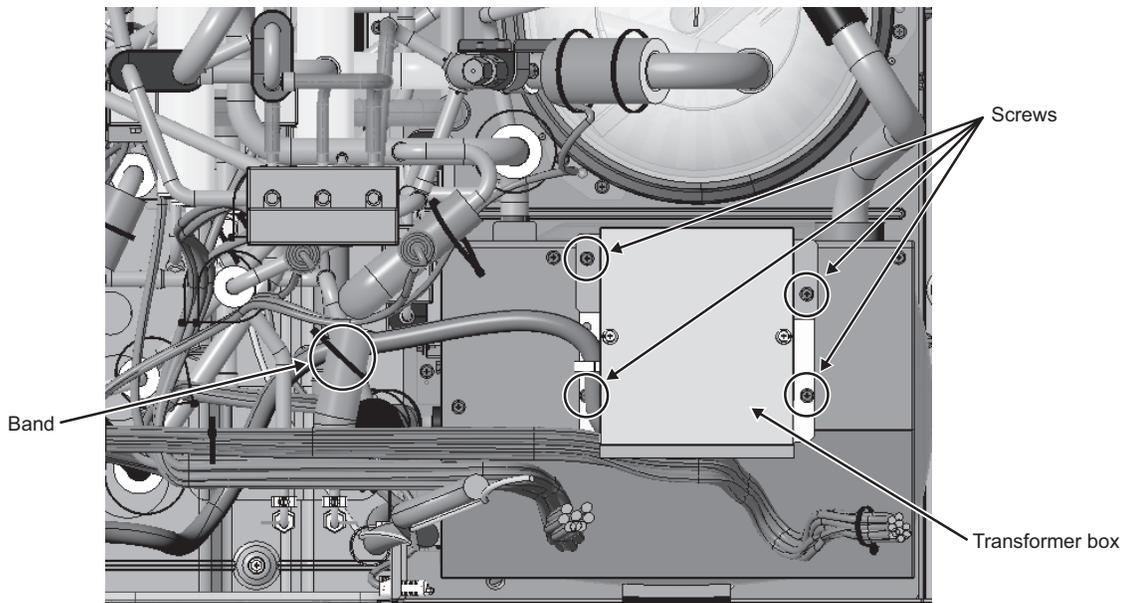

Fig. 1
- (1) Remove the band securing the transformer box wiring. (One band: Fig. 1)
- (2) Remove the screws from the transformer box. (Four screws: Fig. 1)